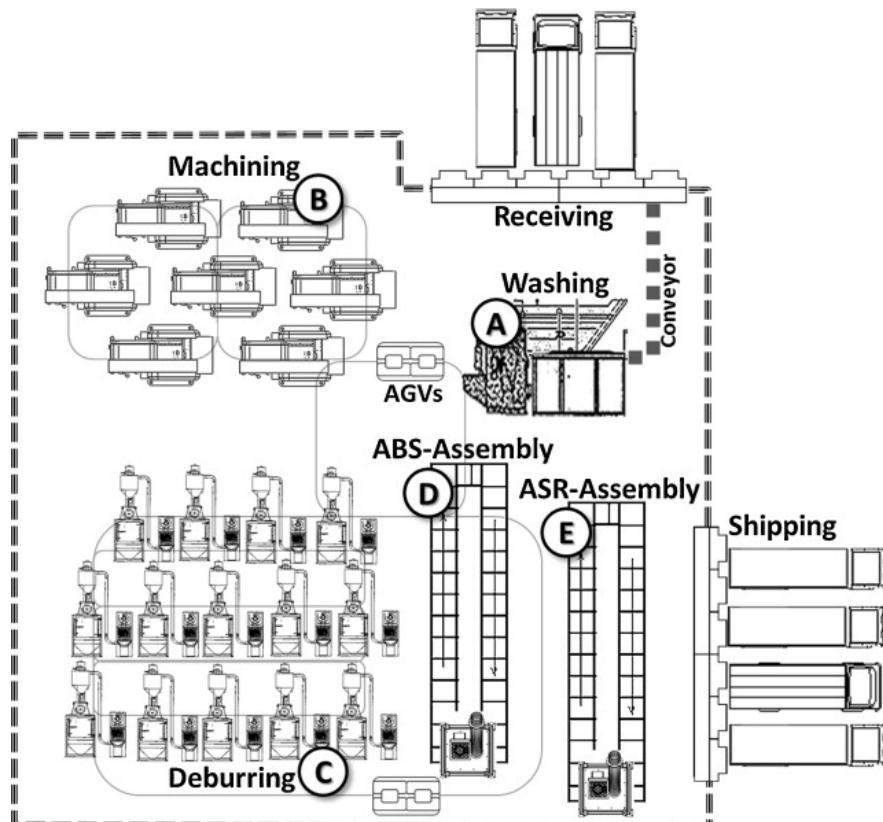

Figure 1
1. Figure 1 depicts the factory plan of Atom Sdn Bhd producing two types of products, ABS and ARS. Raw materials arrived from supplier delivery have to go through the sequence of washing, machining, deburring and assembly before shipping. Please answer the following questions.